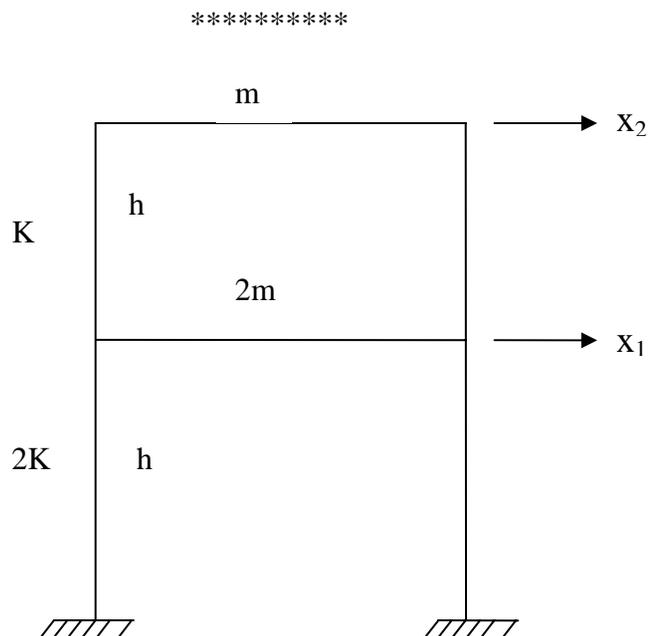

Fig. 1
22. a) Determine the equation of motion, natural frequencies and mode shapes for the model shown in figure 1.